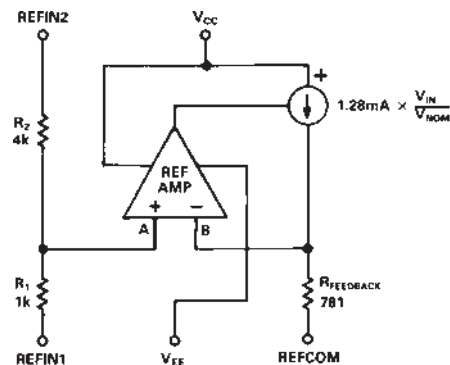
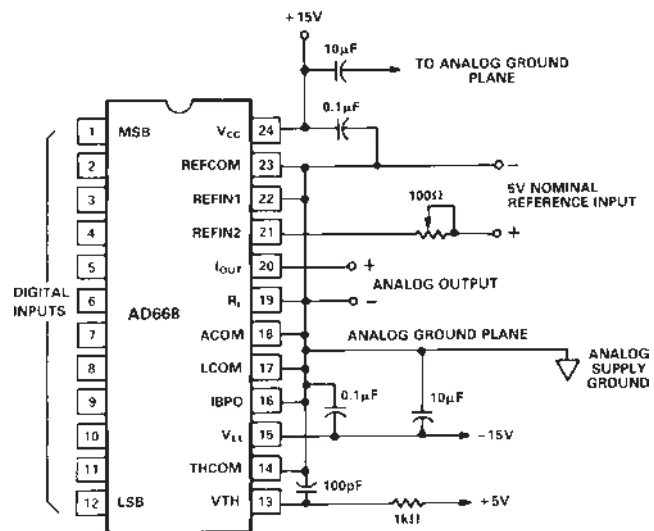

Figure 5. Equivalent Analog Input Circuitry
Figure 7. 5 V REFIN/1 V Unbuffered Unipolar Output
The reference input buffer can be viewed as a resistive divider connected to one terminal of an op amp, as shown in Figure 5. A unit DAC current source drives a resistor to produce a voltage that is fed back to the opposite terminal of the op amp. Resistor  $R_{FEEDBACK}$  is laser-trimmed to ensure that a 1 V input to node A of the op amp will produce a 10.24 mA DAC output. REFIN1 and REFIN2 may be configured in any way the user chooses to provide a nominal input full scale of 1 V at node A.  $R_1$  and  $R_2$  are sized and trimmed to provide both a 5:1 voltage divider and a parallel impedance that matches the impedance at node B, thereby reducing the amplifier offset voltage due to bias current. The resistive divider is trimmed with an external  $50 \Omega$  resistor in series with the 4k leg ( $R_2$ ). This provides a gain trim range of  $\pm 1\%$  using a  $100 \Omega$  trim potentiometer (Figure 7). If trimming is not desired, a  $50 \Omega$  resistor may be used in place of the potentiometer to produce the specified gain accuracy, or the resistor may be omitted altogether to produce a nominal gain error of  $+1\%$ .
**REFCOM** – this node provides the reference ground for the reference amplifier's current feedback loop (as illustrated in Figure 5) as well as providing the negative supply voltage for most of the reference amplifier. The current consists of 1.2 mA of analog input dependent current and another 3 mA of input independent current. Analog input voltages should always be produced with respect to this voltage.
**REFIN1** – has a 1k series resistance to the reference amplifier input and a 5k series resistance to REFIN2. REFIN1 may be used in conjunction with REFIN2 to provide a 5:1 voltage divider, or the two may be driven in parallel to provide a high impedance input node (see Figure 5).
Figure 7 shows a typical topology for generating an unbuffered voltage output. RL (Pin 19) is grounded, producing a 100 Ω
The input divider has been connected to produce a 5 V full scale reference input by shorting REFIN1 to the analog ground plane and using REFIN2 as the reference input. With a 5 V nominal full scale, the 10% to 120% reference input range falls between 0.5 V and 6 V. The effective input resistance in this mode is 5 kΩ (±20%). The ratio of the input divider has been intentionally skewed by 50 Ω to provide an optional external fine trim for gain adjust. A trim range of ±1% is provided by the 100 Ω trimming potentiometer shown in Figure 7. If trimming is not desired, a 50 Ω resistor may be used in place of the potentiometer to produce the specified gain accuracy, or, if a +1% nominal gain error is tolerable, the resistor may be omitted altogether.